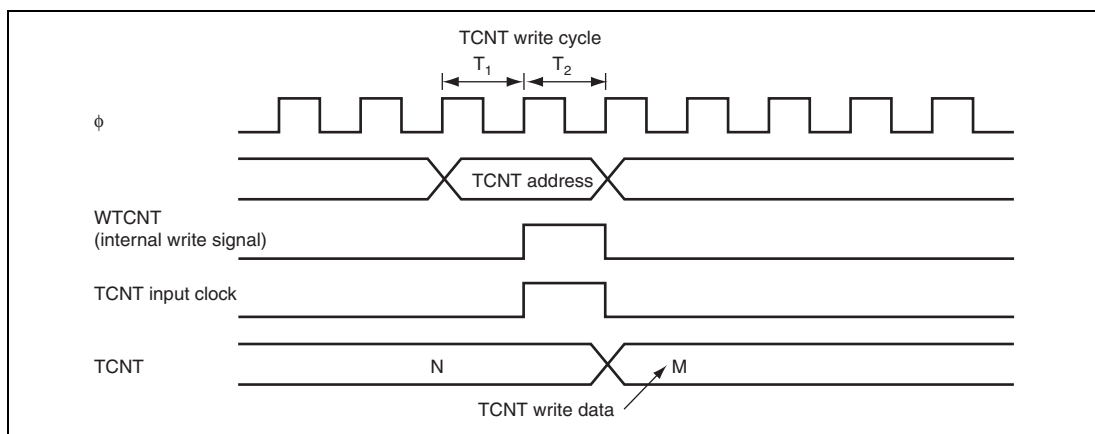

Figure 14.53 Contention between TCNT Write and Increment Operations
2. Contention between TCNT Write and Increment Operations: If incrementation is done in T_2 state of a TCNT write cycle, TCNT writing has priority. Figure 14.53 shows the timing in this case.